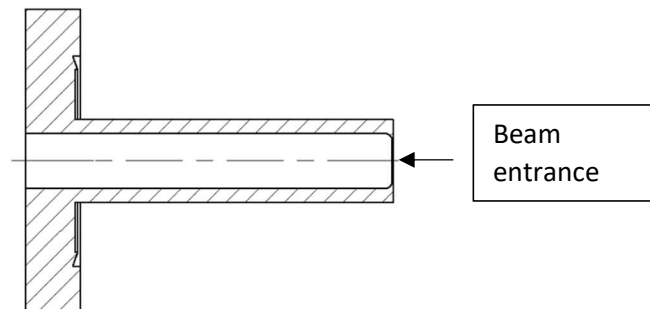

Figure 2: Entrance window measurement location
- d. Measure entrance window thickness (see Figure 2). Record the average and standard deviation on the report form below.